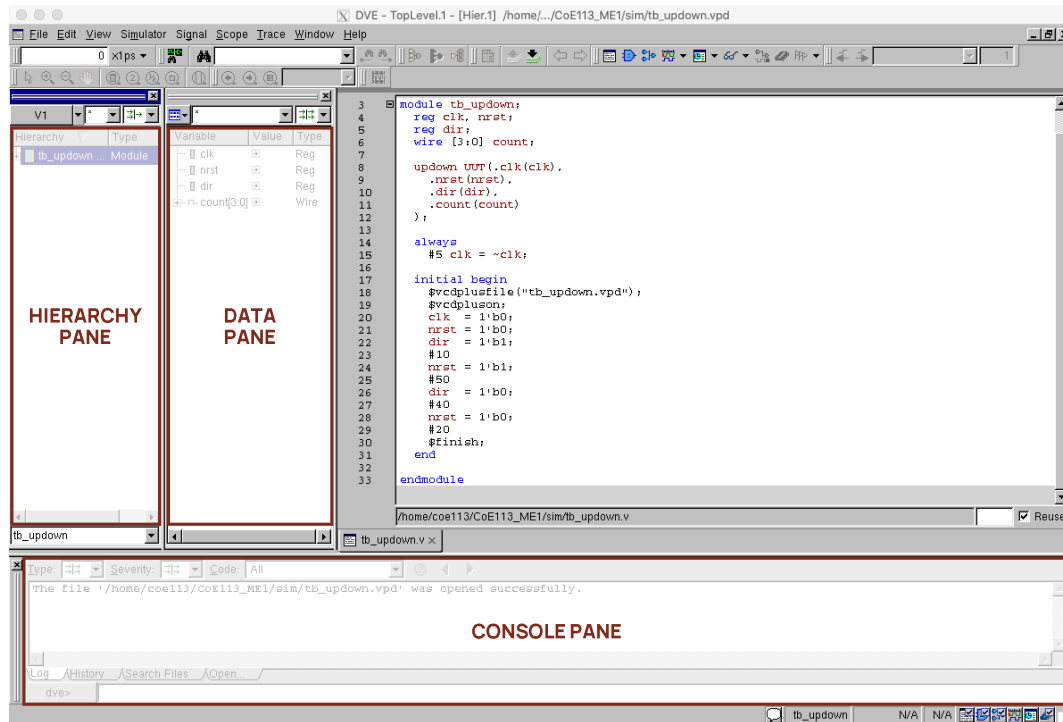

Figure 2: DVE GUI with loaded dumpfile.
3. Figure 2 shows the DVE GUI after loading the dumpfile. There are three panes of interest shown. The hierarchy pane shows the hierarchy of modules of the compiled Verilog files. The data pane shows the variables, signals, and registers of the currently selected module in the hierarchy pane. The console pane shows a console that can be used to execute DVE commands. Do not worry if you cannot find all three panes. You can toggle them into view by selecting Window → Panes in the main toolbar.